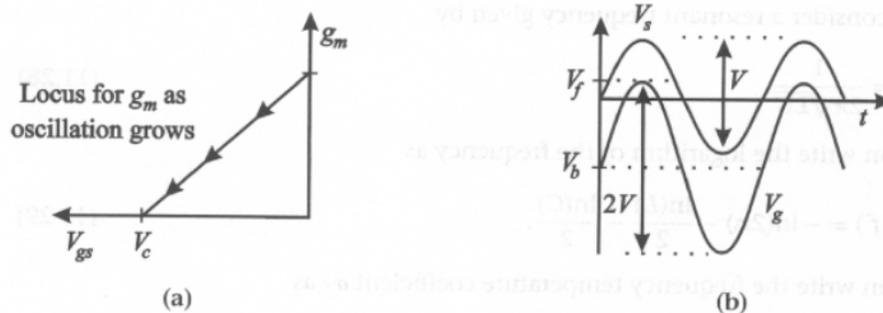

Figure 11.7. Effect of the gain-limiting diode on g_m as the oscillation builds up (a). V_s and V_g waveforms (b).
3. As V_{gs} becomes more negative, g_m decreases, as shown in Fig. 11.7(a):
The steady-state JFET source and gate voltages are sketched in Fig. 11.7(b) above. This can be directly compared with the oscilloscope screen shot shown on page 7.